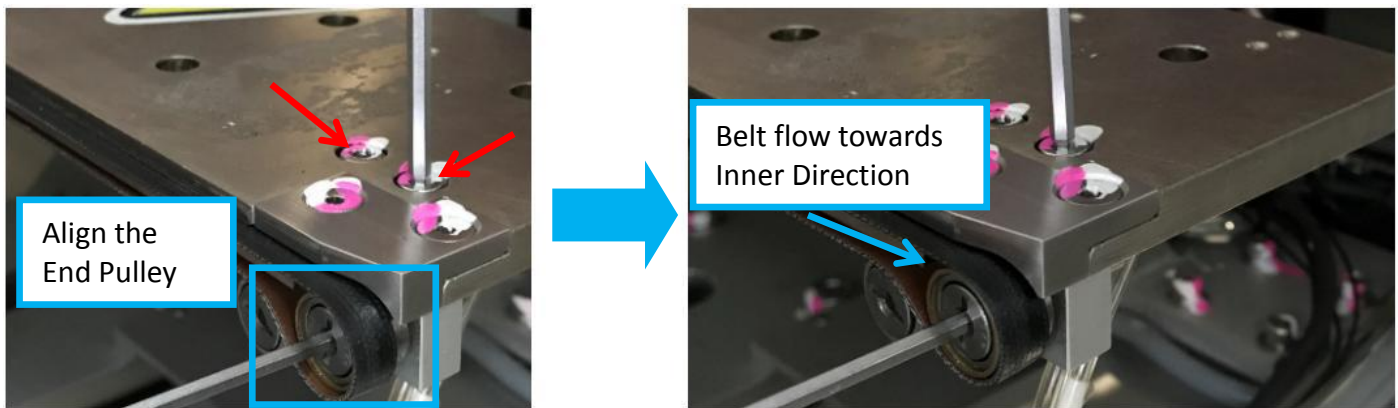

Figure 19 End Pulley Alignment
- f) Align the End Pulley until Belt Flow towards Inner Direction as below Figure 19. Tighten 2 x Screws after desire alignment achieve